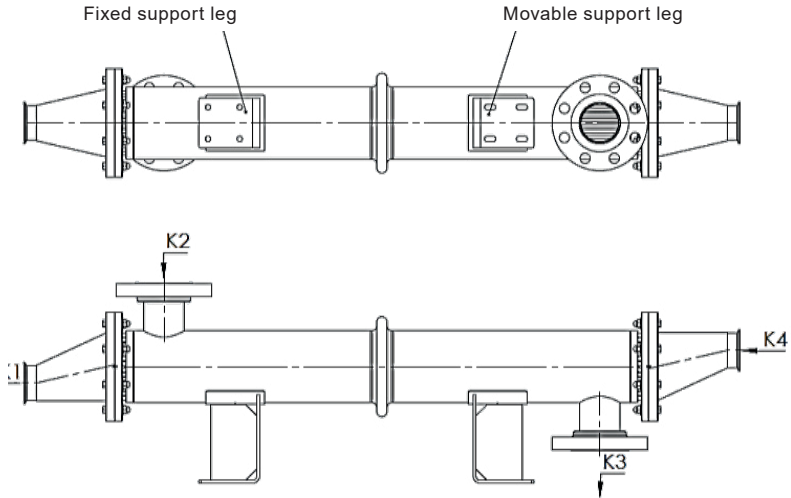

Fig. 4
- horizontal position assembly - support leg feet with drilled round holes should be treated as a fixed bracket, support leg feet with machined slots should be treated as a movable bracket (not fixed to the base) (Fig. 4),